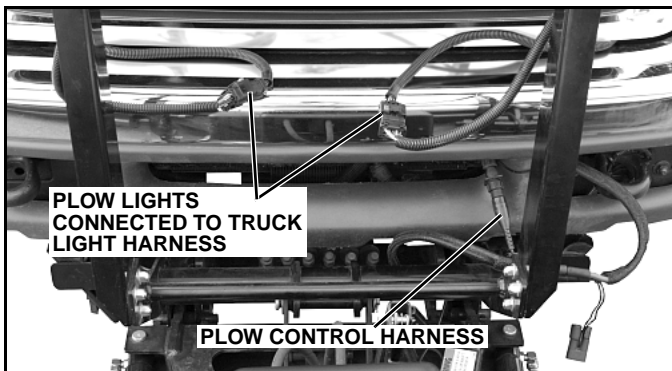

Figure 1-21
7. Plug plow light connectors into mating connectors on truck light harness (See Figure 1-21).